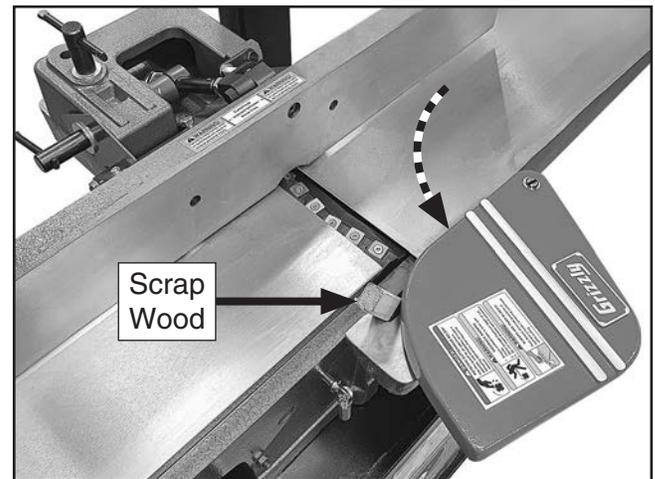

Figure 19. Cutterhead guard secured in place.
14. Rotate cutterhead guard counterclockwise and secure temporarily with a piece of scrap wood (see **Figure 19**).